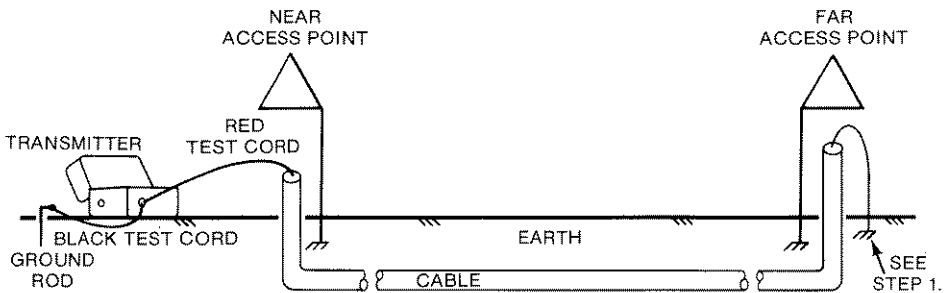

Figure 2-2.
4. Connect the black test cord clip to the ground rod (see Figure 2-2).
5. Plug the jack end of the red/black test cord into the RED/BLACK TEST CORD jack receptacle on the transmitter (see Figure 2-2).